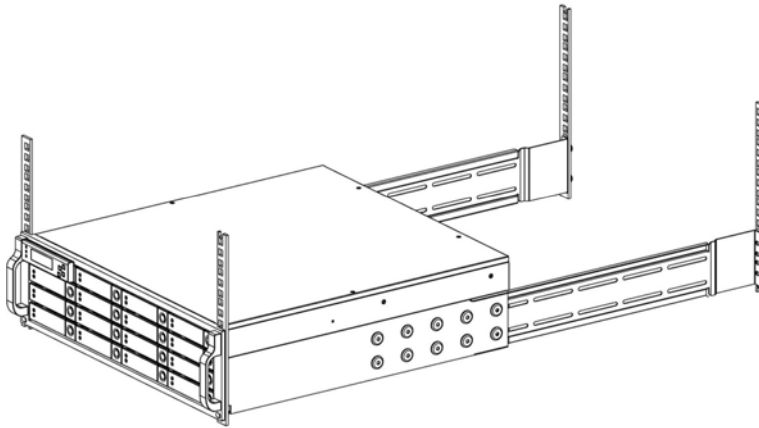

Figure 3.
2. Fasten two M5 screws through the chassis ears in the front side of the chassis to secure the Alnico subsystem in the rack as Figure 3.